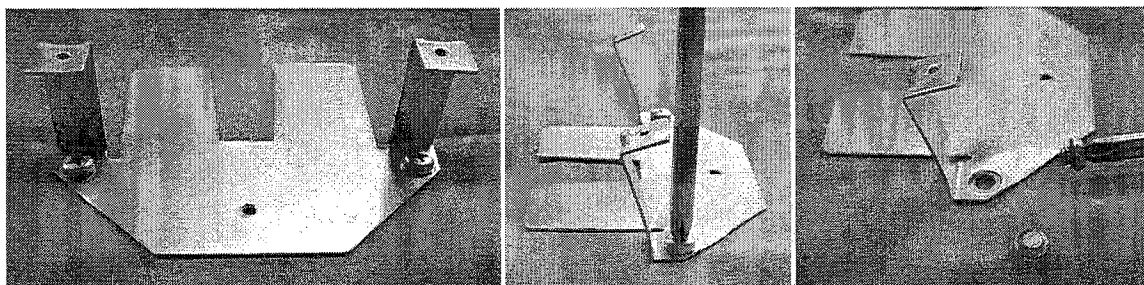

Figure 4
- With the screw studs removed from the reflector plate, as shown in Figure 4 (left). Bend the 2 lens mounting tabs far enough back to access the screw heads clearly, as in Figure 4 (center). Using a #2 Philips screwdriver, start turning the screw head counter-clockwise until it is removed from the plate, as shown in Figure 4 (right). Then follow by passing the threading tap (10-32 or M5 X .8mm) through the hole to clean out any debris left behind. Repeat process for the other side.